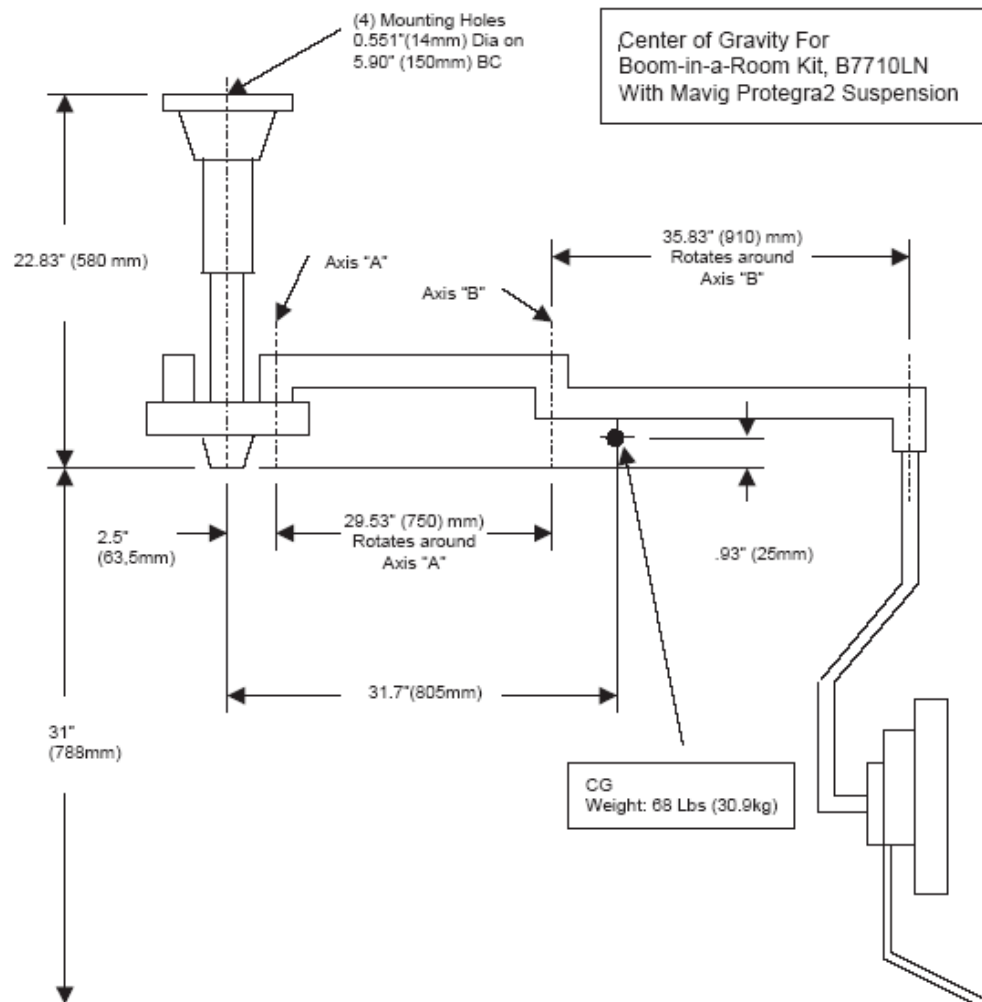

Figure 8-1 Center of Gravity for Boom-in-a-Room Kits, shown on the site print
The pedestal-ceiling mount requires a flush ceiling mounting plate that is structurally supported to handle the weight of the load as shown in Figure 8-1. You can order a Mavig-designed ceiling plate (p/n E8007PJ / E8004NG). This 356 mm x 356 mm (14 in. x 14 in.) plate has pre-drilled 1/2 in. mounting holes in each of the four (4) mounting corners.